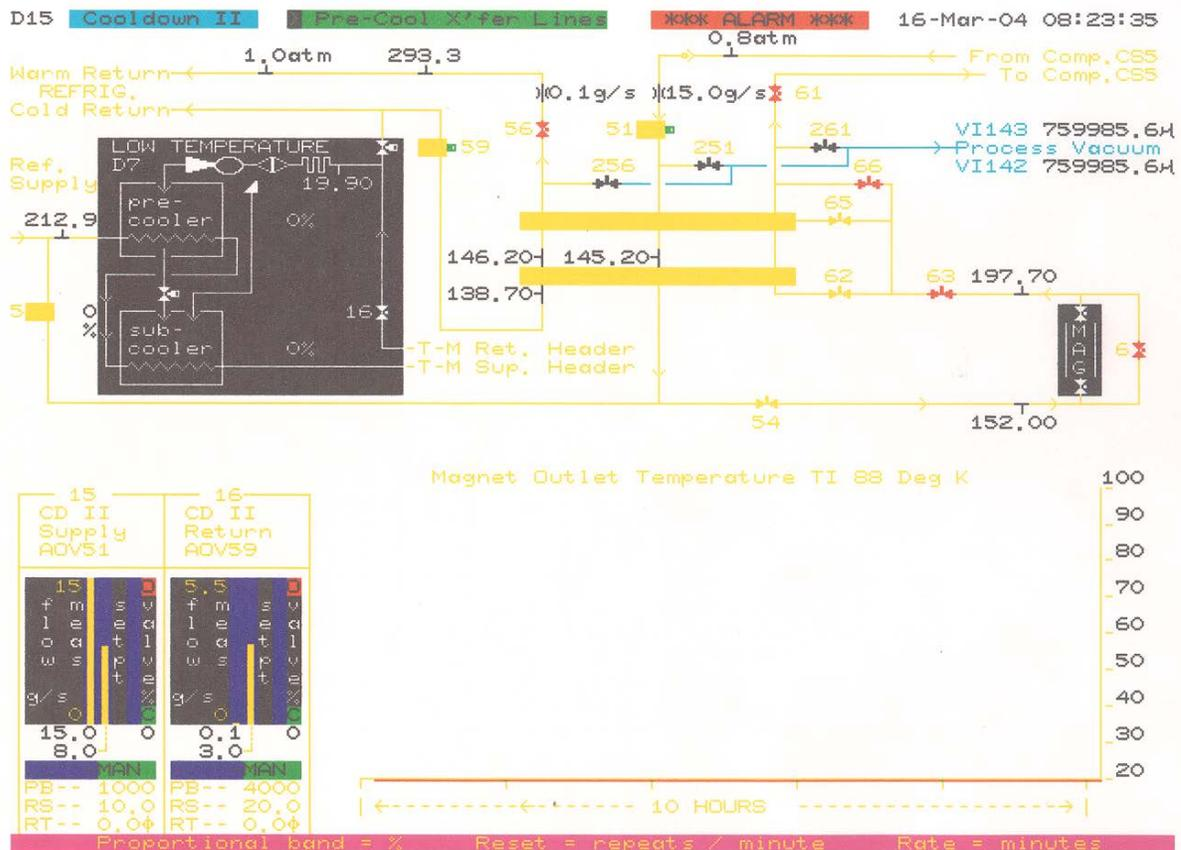

Figure 1. Display of control page D15 for Cooldown #2
- 5.4 Operation of Cooldown #2 is computer controlled. Process conditions and controller can be seen from the screen similar to Figure 1. In Cooldown #2, helium flow from CS5 through Cooldown 2 heat exchanger is used to cool the magnet. A small amount of cold helium, extracted from AOV5 in the Low Temperature Cold Box, is used to provide the necessary cooling to 10 K.